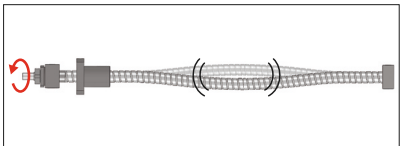

Figure 3 Resonating Ball Screw
**Screw Shaft:** When the allowable rotational speed is exceeded, resonance will begin at a unique oscillating frequency and this might disable operation. (Figure 3)